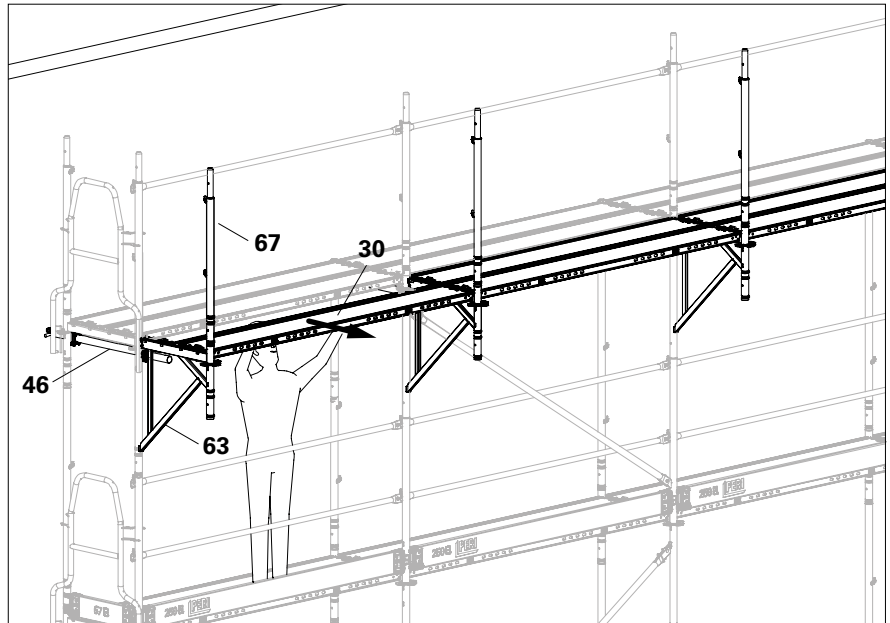

Fig. D2.06
- Variation 1: Anchor each frame column to the inner and outer leg of the vertical frames with a wall tie (**46**). (Fig. D2.06)
(Fig. D2.06)